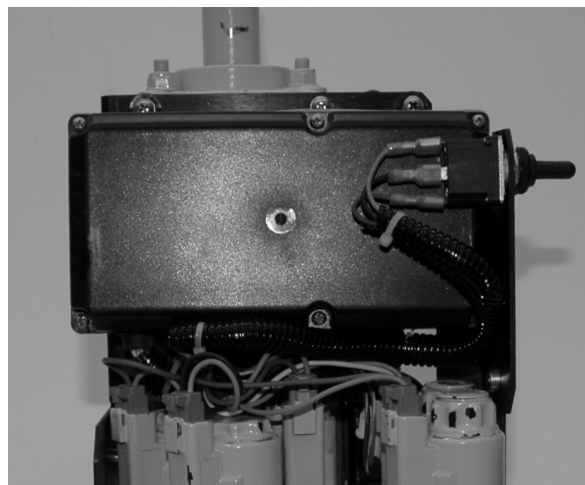

FIGURE 6
5. Disconnect the mount switch wires from the mount toggle switch by pulling the three female spade connectors off the switch terminals. Be careful to pull only on spade connector's body not on the wires. Remove the two philips head PCM mounting screws located at top of PCM, this will allow you to slide the PCM away from the valve block solenoids. Disconnect the five gray connectors from the five valve block solenoids, there is a locking latch on the side of connector that you will have to press while pulling on connector (figure 6).